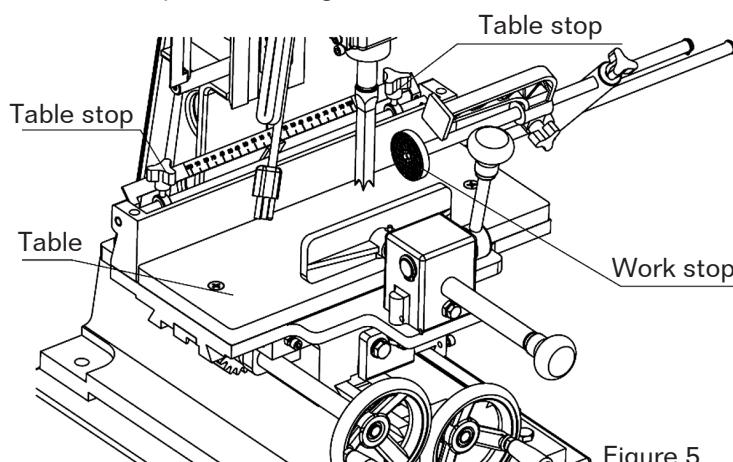

Figure 5
- Adjust the table stops, Figure 5, according to the length of cut required, then tighten the thumb screws